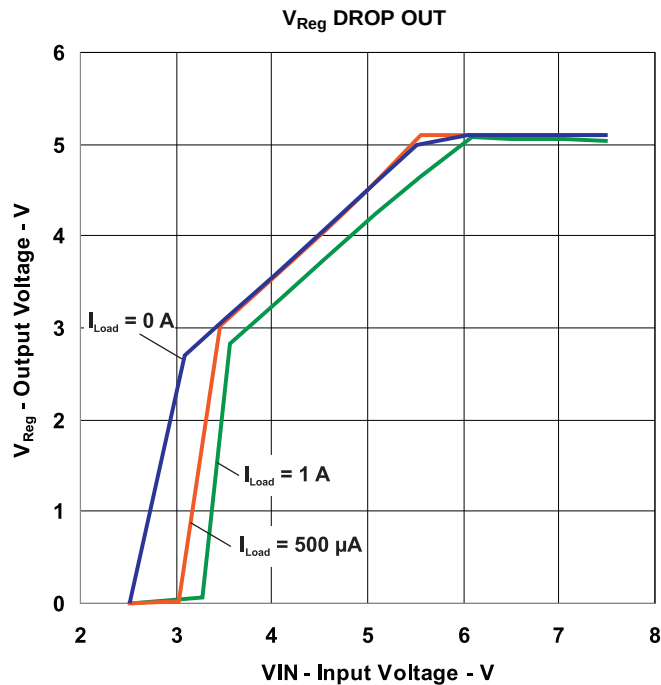

Figure 9.
- Power down (Tracking): This curve shows the input voltage at which the output voltage drops approximately by 0.7 V from the programmed 5 V regulated voltage (see Figure 10) or for low input voltages (tracking function) over the range of load currents (see Figure 9).